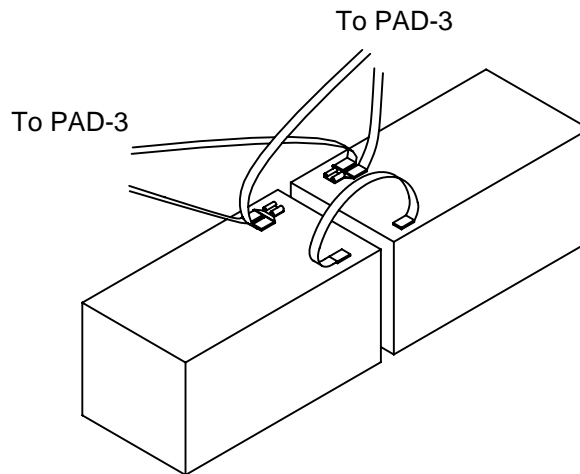

Figure 2-7. Dual module battery connection
4. Connect the red wires from both PAD-3 boards to the splitter on the positive terminal of battery #1. See Figure 2-7.